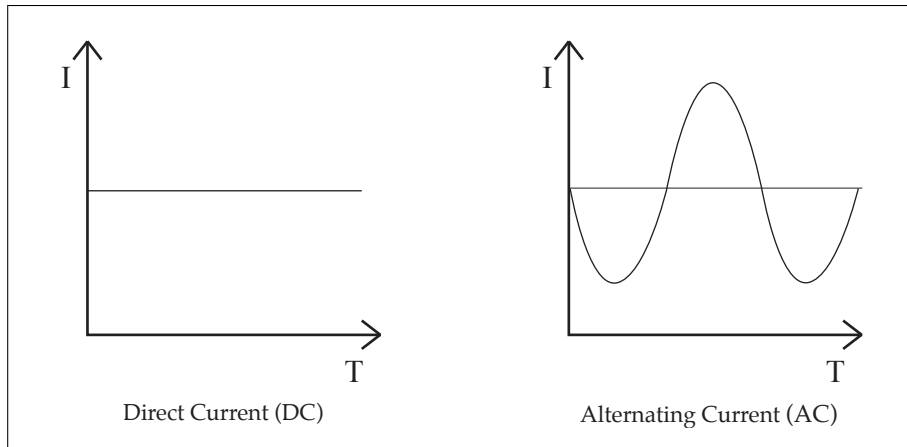

Figure 9: AC and DC Currents
When magnitude and direction of current flowing in a circuit does not vary with time, the current is referred to as *direct current* (DC). If the current continuously varies amplitude and direction, it is referred to as *alternating current* (AC). See figure 9.